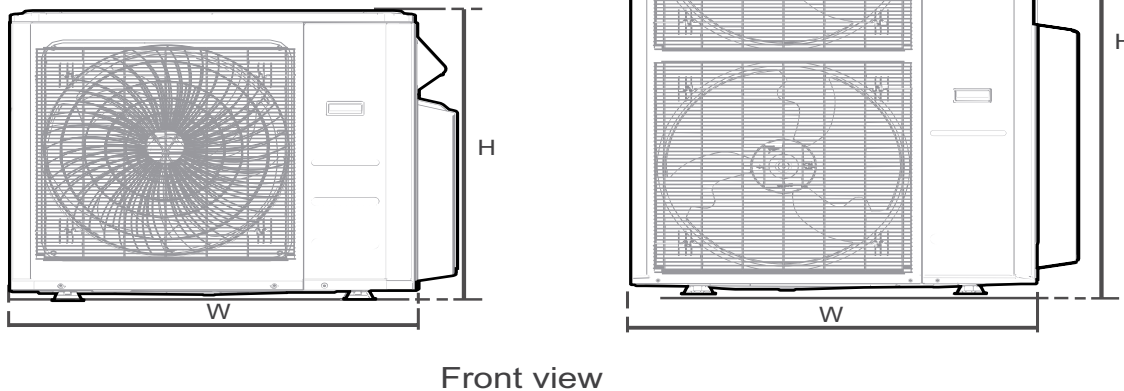

Fig. 13 — Anchor the Outdoor unit
- The outdoor unit can be anchored to the ground or to a wall-mounted bracket with bolt (M10). Prepare the installation base of the unit according to Figure 13.